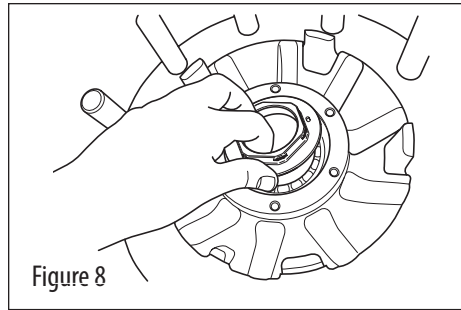

Figure 8
2. Position the spindle nut and washer against the outer bearing (see Figure 8).